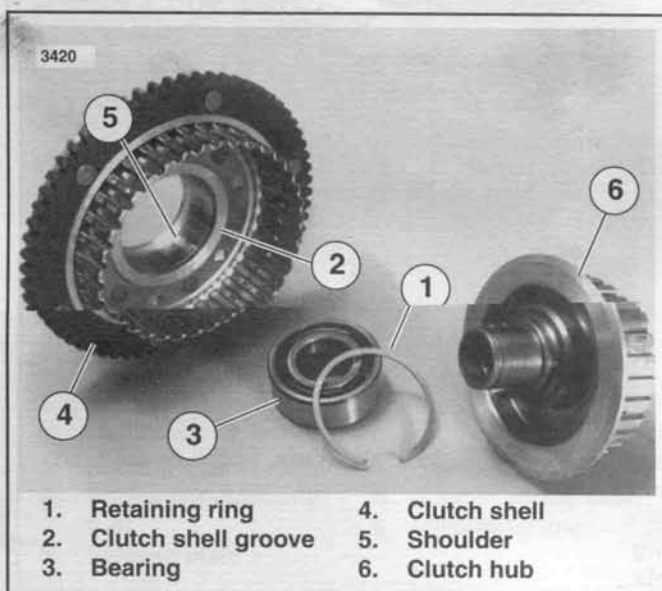

Figure 6-14. Clutch Components
- See Figure 6-14. Remove and discard retaining ring (1) from clutch shell groove (2). Press bearing (3) out of clutch shell (4), if necessary, using a suitable press plug and arbor press. The press plug must be placed on the bearing at the primary chain sprocket side of the clutch shell because the bearing bore has a shoulder (5).
- See Figure 6-14. With an arbor press and a press plug that contacts outer bearing race only, press bearing (3) into clutch shell (4) bore until it bottoms against shoulder (5). Install new retaining ring (1) in groove (2).